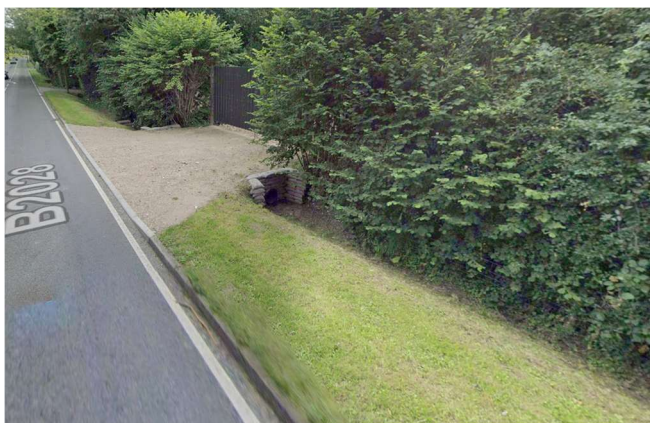
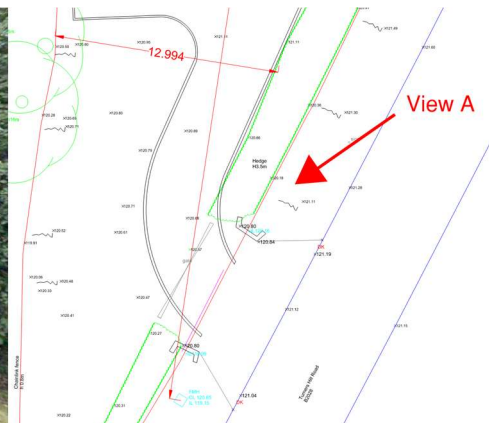

Figure 4: View of site access (View A)
Figure 5: Southwest view from B2028
- 2.04 From the topographical survey it appears that the site drops along the eastern and western boundary. Looking at the gates to the south on Google Streetview one can see a dry ditch with a culvert underneath the access (Figure 4). This culvert can also be seen on the topographical survey (Figure 5).